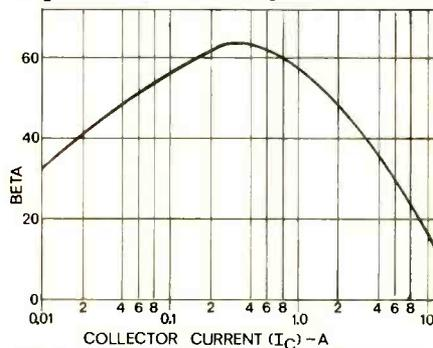
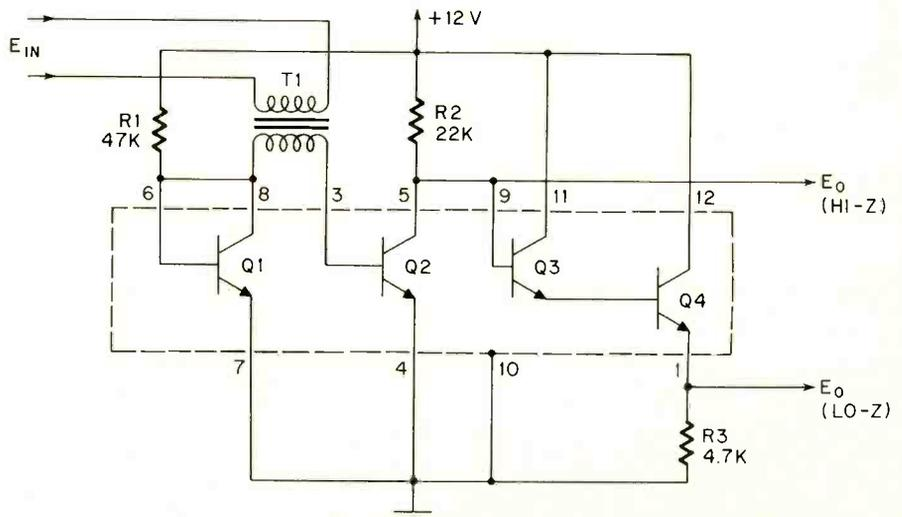

FIG. 3—BETA CURVE shows how dc beta varies with collector current when V_{CE} is 4 volts.
FIG. 2—MATCHED TRANSISTORS in a transformer-coupled amplifier. Pin numbers shown are for the CA3018; T1 is an audio line-to-line or step-up transformer.
12. The emitter resistance is 0.56 ohms. When reflected into the base circuit, it appears as a dc resistor equal to the beta of the transistor multiplied by R_E . The dc beta curve, reproduced in Fig. 3, shows the average beta is about
You can make an ultra simple amplifier out of this matched transistor combination simply by modulating the bias applied to Q2. This can be done in two ways, transformer coupling (Fig. 2) or direct current addition as in Fig. 3.
scheme of Figure 3. This method sums in an ac current through R_{in} with the dc bias in Q1, and in so doing modulates the base voltage applied to Q2. Q1 automatically develops a base voltage for Q2 proportional to this modulation current. And, since Q2 is matched it develops a corresponding current in its collec-
FIG. 3—DIRECT COUPLING in an amplifier using transistor array. Voltage gain is approximately R_2/R_{in} . Input impedance approximates R_{in} when R_{in} is much greater than the input (diode) impedance of Q1. With values shown, Z_{i1} is about 100 ohms.